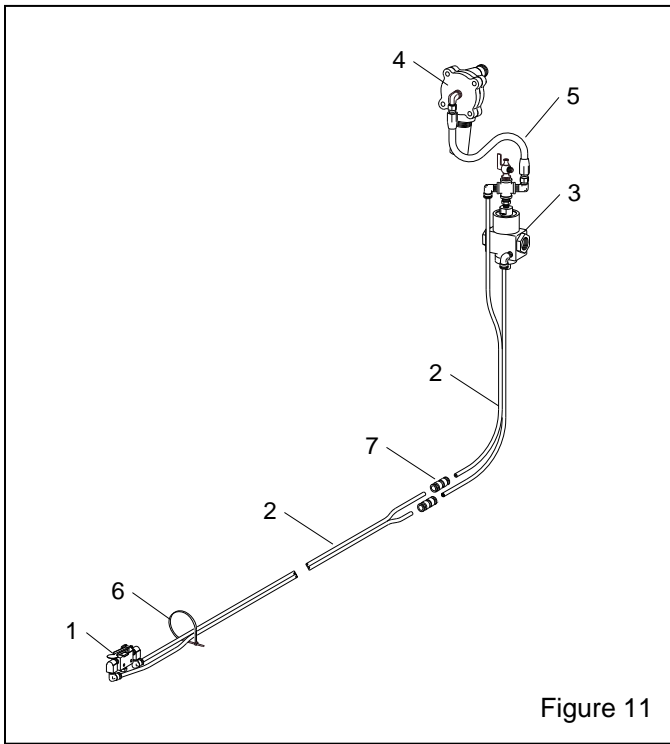

Figure 11
7.3 Remote Controls, Figure 11